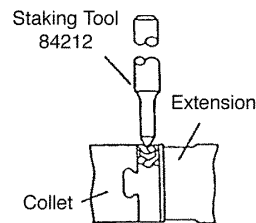
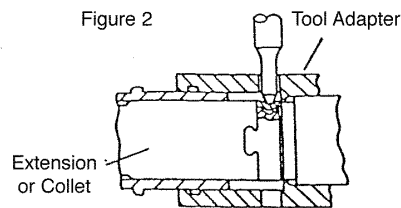

Figure 2
Figure 1
Remove parts of N/assem. for inspection and maintenance. If applicable, pressed-in anvil is pressed out with drift and arbor press; press new anvil in squarely to prevent cracking. **When using extension, stake to tool's spindle/rod before assembling collet -see Fig. 1; use only one shim.** Use wrench to snug-up extension on spindle. Assemble parts as shown -- apply thin coat SUPER O-LUBE to O-rings and O D of sleeve and VIBRATITE to extension W/O lock collar. Use collet wrench to snug-up collet. **4801:** Tool has holes in adapter-- rod through adapter and spindle/rod prevents piston from turning.
6. **Caution: To prevent damage -- after proper adjustment has been made, collet lock collar must be staked.** As applicable, see Fig. 1 and/or Fig. 2. For nose assemblies with sleeve and O-rings, jaw tension on fastener pintail is changed by adding or removing O-ring(s). Use collet wrench to snug-up. Loose lock collars or too many shims (see step 4, 353) may cause holder/anvil damage -- too few shims may cause jaw damage. Reuse lock collars until ineffective.